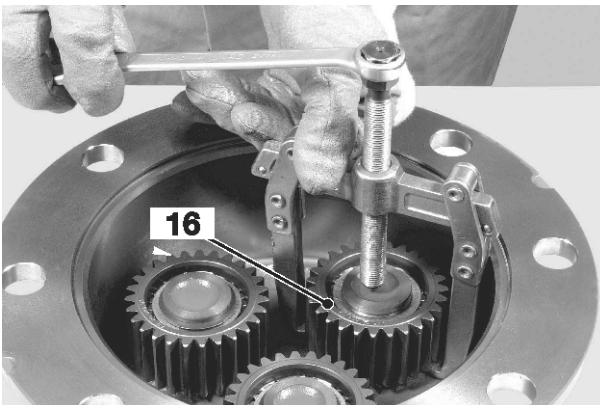

Fig 10.
- 13 Use a suitable extractor to remove the planetary gears 17 from the planetary gear-housing. → Fig 10. (□ F-13).